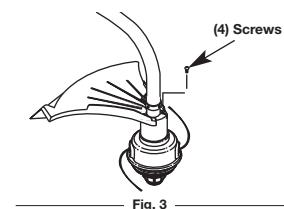

Fig. 3
- Install the screws with a Phillips screwdriver (Fig. 3).